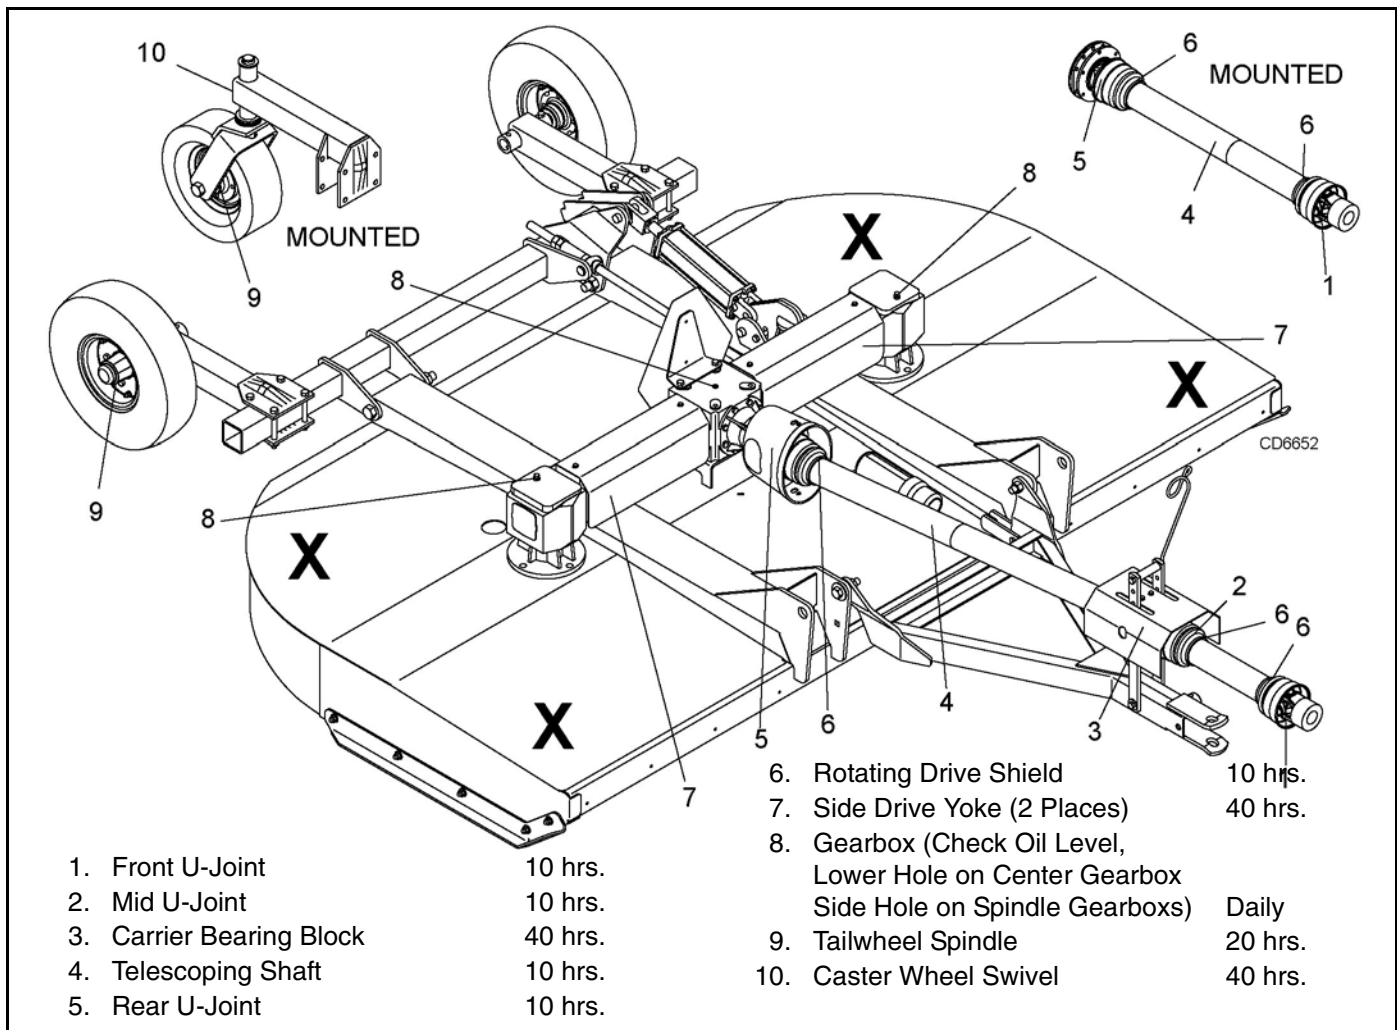

Figure 12. Jackstand Placement and Lubrication Points
1. Jackstands with a load rating of 1000 lbs. or more are the only approved blocking device for this cutter. Install a minimum of four jackstands (shown by Xs in Figure 12) under the cutter before working underneath unit.
See Figure 12 for lubrication points and frequency or lubrication based on normal operating conditions. Severe or unusual conditions may require more frequent lubrication.